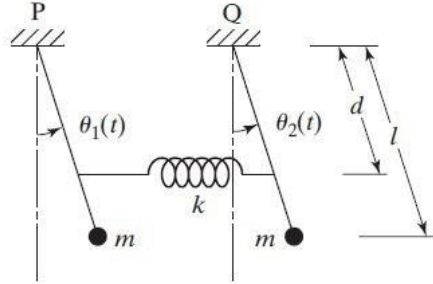

FIGURE 5.35
- 5.31 Two identical pendulums, each with mass m and length l , are connected by a spring of stiffness k at a distance d from the fixed end, as shown in Fig. 5.35.